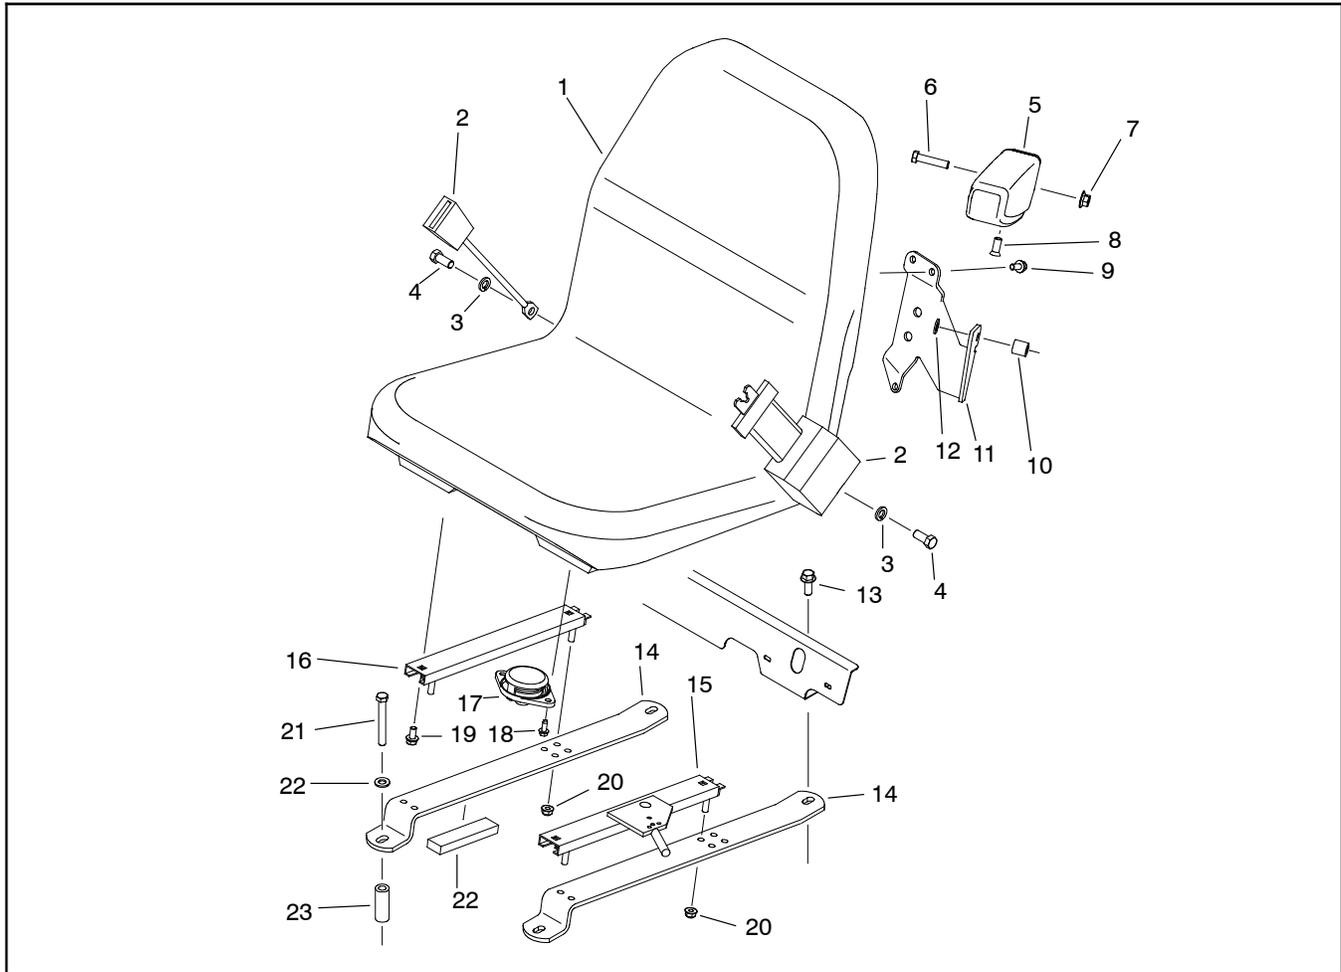

Figure 10
4. Remove seat parts as necessary to make repairs (Fig. 10).
1. Install any new seat parts (Fig 10).